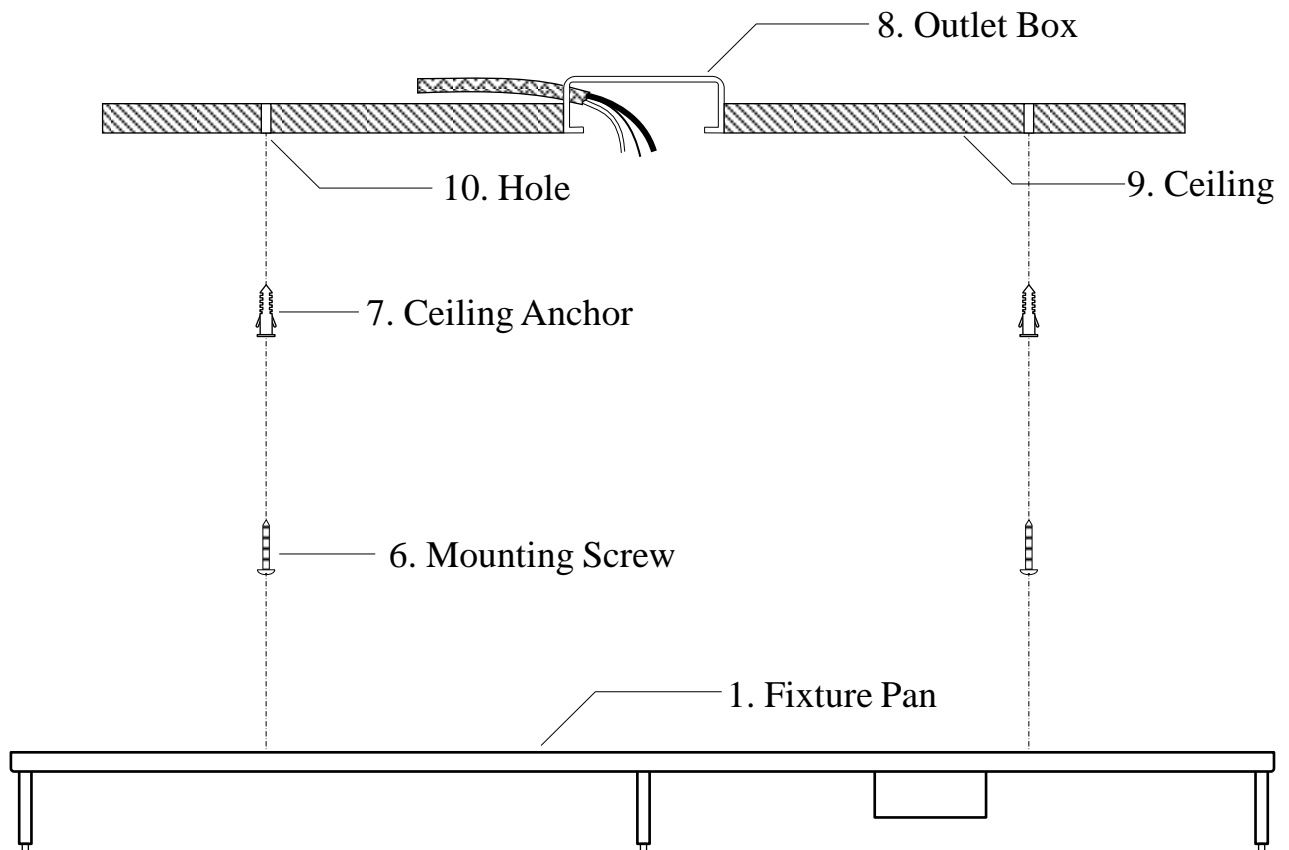

Fig. 1
3. Remove the Fixture Pan (#1) from the Ceiling (#9). Drill appropriately $\frac{1}{4}$ " sized Holes (#10) at the marked keyhole locations. Insert the Ceiling Anchors (#7) into the Holes (#10). (**Fig. 1**)
4. Thread the Mounting Screws (#6) halfway into the Ceiling Anchors (#7). (**Fig. 1**)